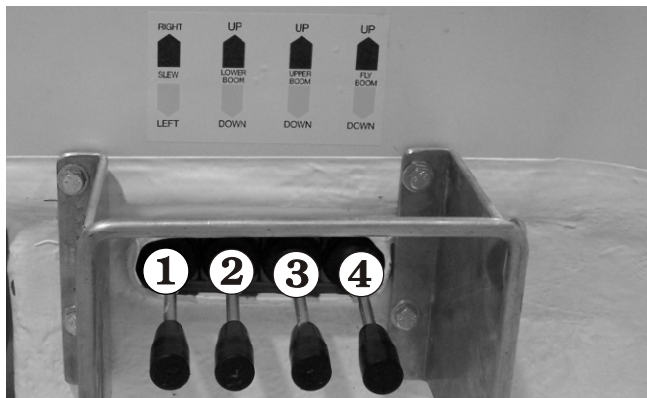

Figure 8.11 - Upper Controls - Insulated Fibreglass Basket, Platform Movement Control Valve levers
8. **Platform Movement Levers:** Items 1 through 5 (see Figure 8.11) are the platform moving control levers.